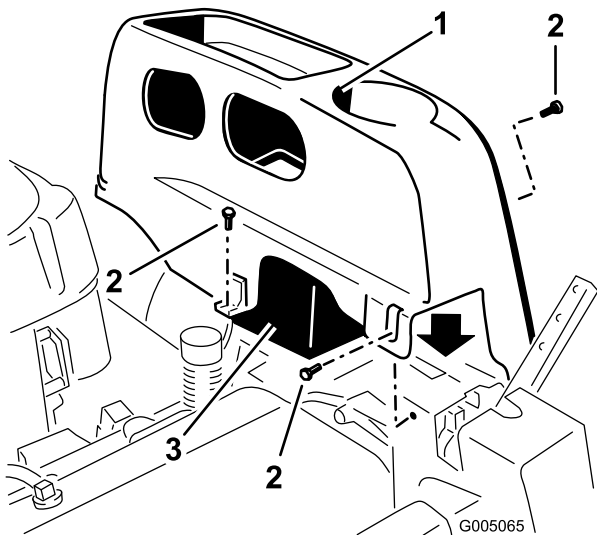

Figure 18
2. Remove the TORX® head fasteners (25) securing the left cover to the frame as shown in Figure 18.